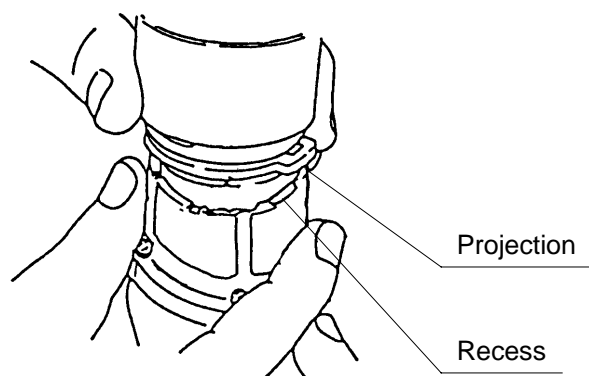

Fig. 16
- (e) Install the assembly in (1) and the assembly from (d) together. (See Fig. 16)